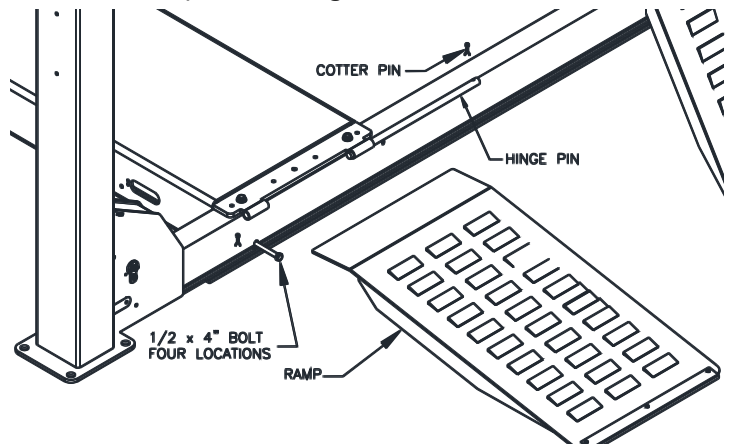

Fig 30 – Warning & Caution Decal
- 84) Install the four 1/2-13 x 4" bolts through front and rear crossbeam and into the runways. Torque to 60-80 foot pounds. See **Fig 30**
85) Assemble the each Ramp using the hinge pins and cotter pins. See **Fig 30**.